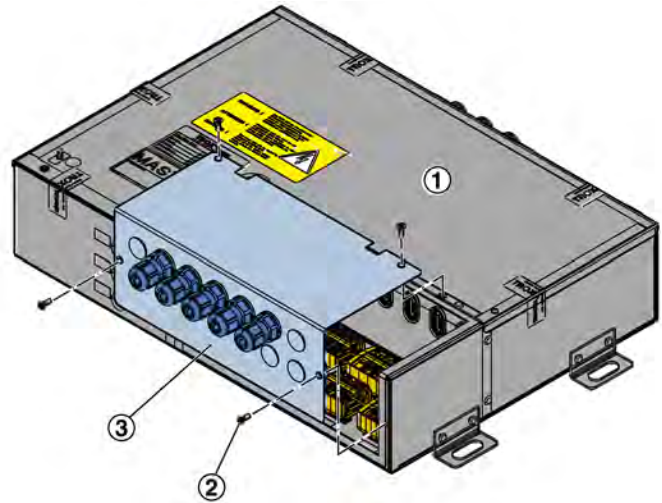

Fig. 52: Electrical connections of SCHOOLAIR-D
1. ▶ Take off the controls access panel (Fig. 52 /3); to do so, loosen the Phillips screws (Fig. 52 /2), then remove the panel.
Do not open the panel of the 230 V box (Fig. 52 /1).